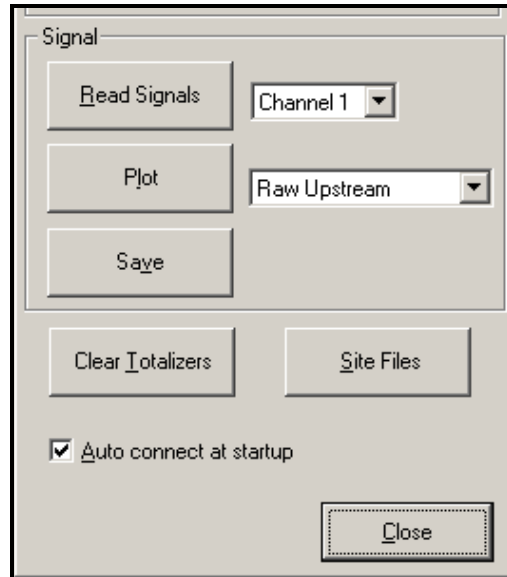

Figure 25: Active Signal Options in Properties Window
1. Click on the *Read Signals* button. (If the meter is a multi-channel instrument, open the Channel drop-down menu and click on the desired channel.) After a moment, the *Properties* window appears similar to Figure 25.